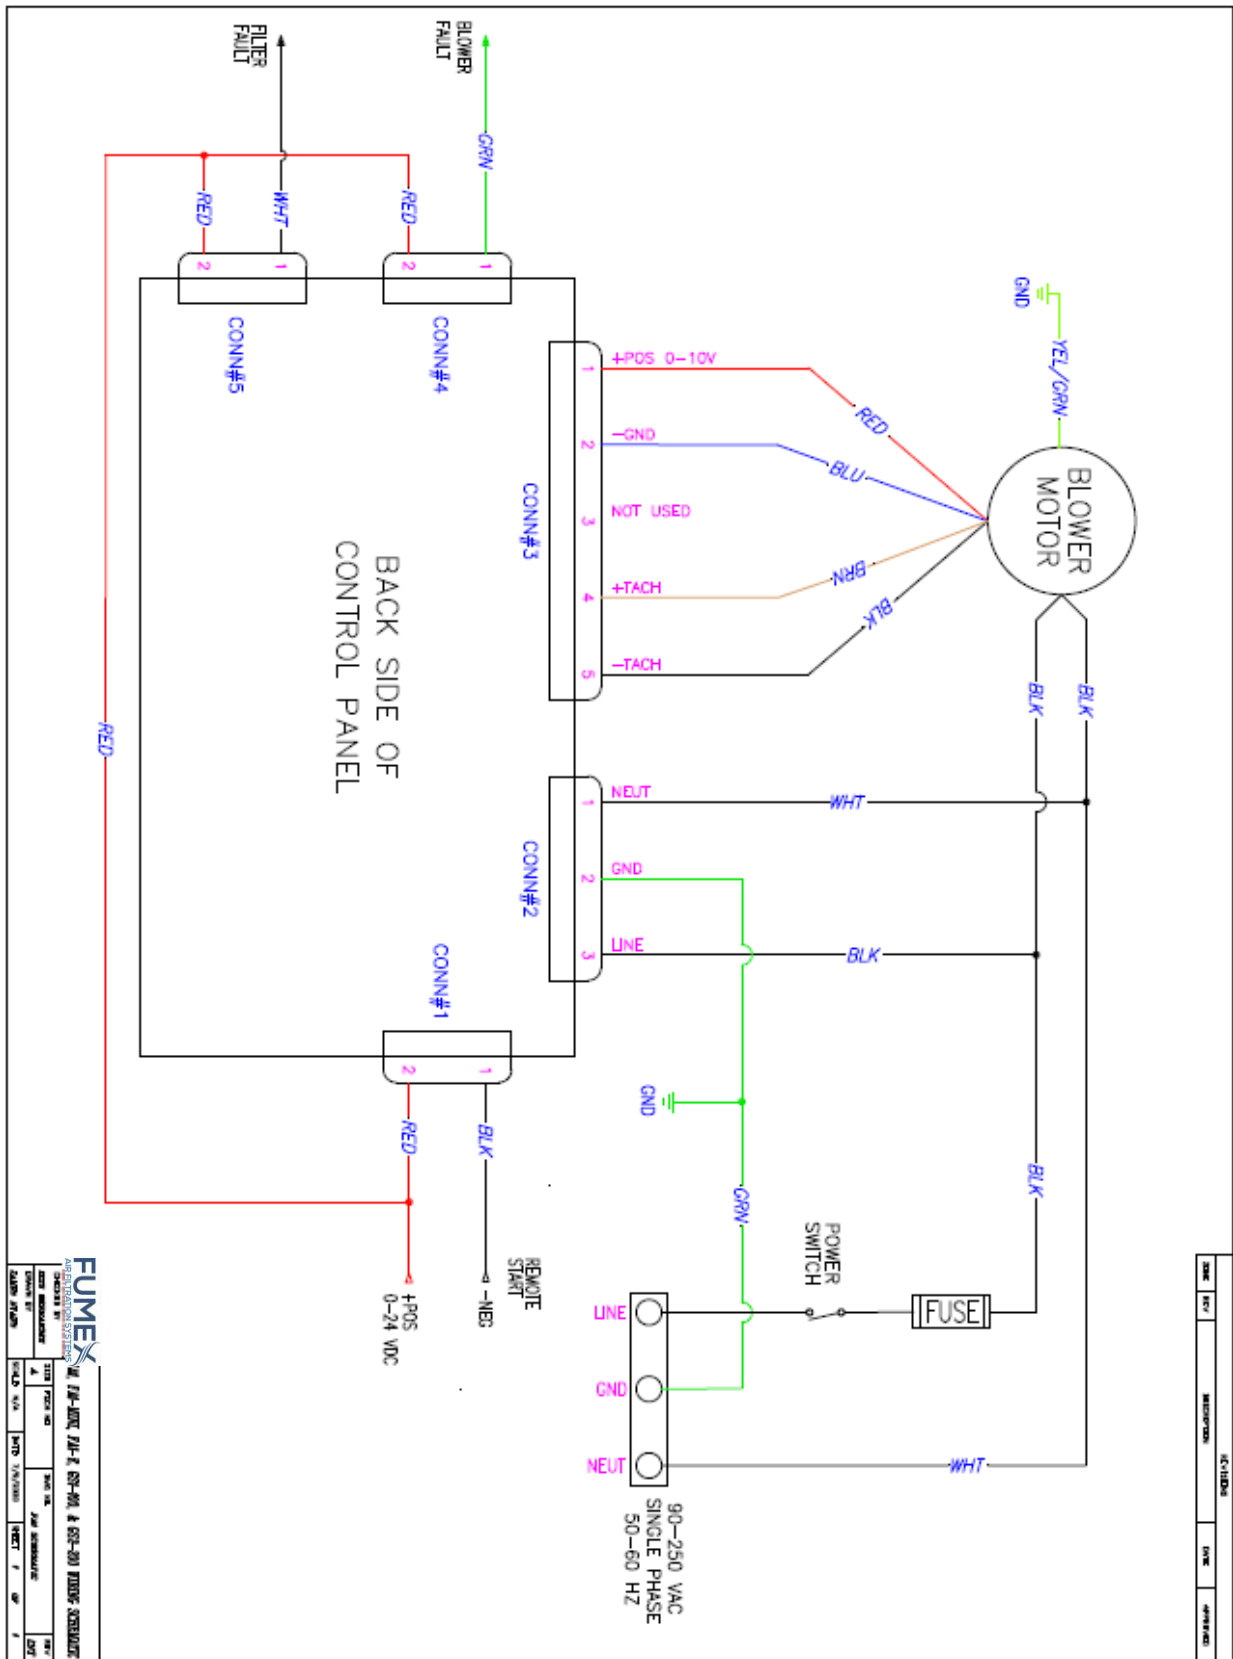

Figure 1
The GS2-200 unit can be supplied with an optional interface package providing remote start/stop and filter monitoring capabilities (Part # FA228). Please see instructions below for Relay Activation/De-Activation procedures and refer to the drawing in Figure 1 for remote connections.
7. Remove the flash drive and apply 0-24 VDC to the start relay according to the wiring diagram in Figure 1 to start the unit.